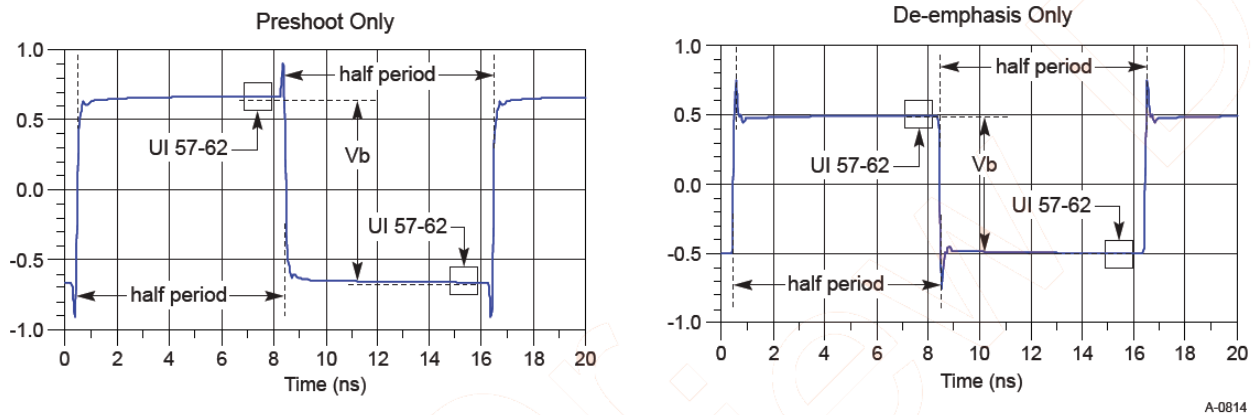

Figure 105 Waveform measurement points for preshoot and de-emphasis
8.0 GT/s, 16.0 GT/s and 32.0 GT/s PCIe signaling must support the full range of presets given in Table 8-1 (PCIe Base Specification Revision 5.0). Presets are defined in terms of ratios, relating the pre-cursor and post-cursor equalization voltages. The pre-cursor (V_c) is referred to as pre-shoot, while the post-cursor (V_b) is referred to as de-emphasis. This convention permits the specification to retain the existing 2.5 GT/s and 5.0 GT/s definitions for Tx equalization, where only de-emphasis is defined, and it allows preshoot and de-emphasis to be defined such that each is independent of the other. The tolerances in Table 8-1 (PCIe Base Specification Revision 5) also apply to 2.5 and 5.0 GT/s de-emphasis. The maximum swing, V_d , is also shown to illustrate that, when both c_{+1} and c_{-1} are nonzero, the swing of V_a does not reach the maximum as defined by V_d . The high frequency nature of PCIe signaling makes measurement of single UI pulse heights impractical. Consequently all amplitude measurements are made with low frequency waveforms as shown in Figure 105.